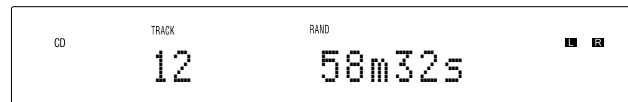

Figure 28
1. With the MCD600 in the STOP ■ Mode press the SHIFT Push-button and then the RANDOM Push-button. The word RANDOM will be indicated in the Front Panel Display. Refer to figure 28.